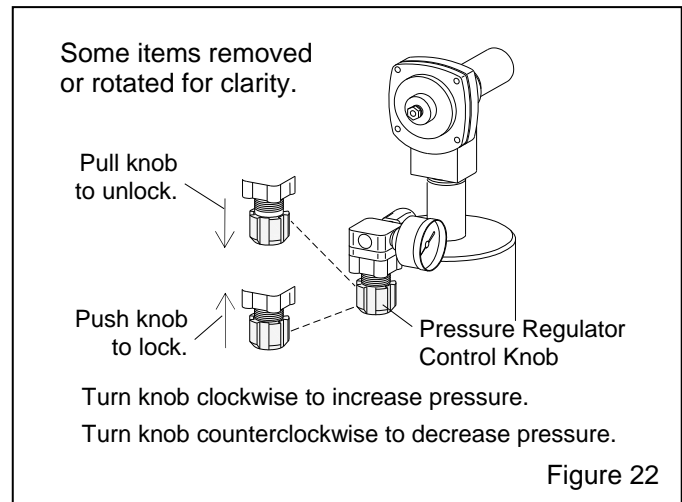

Figure 22
**5.1.1** The pressure regulator is located on the pulse reservoir inlet, as shown in Figure 22. After the cartridge is seasoned per Section 7.2, adjust pressure to 60 psi.